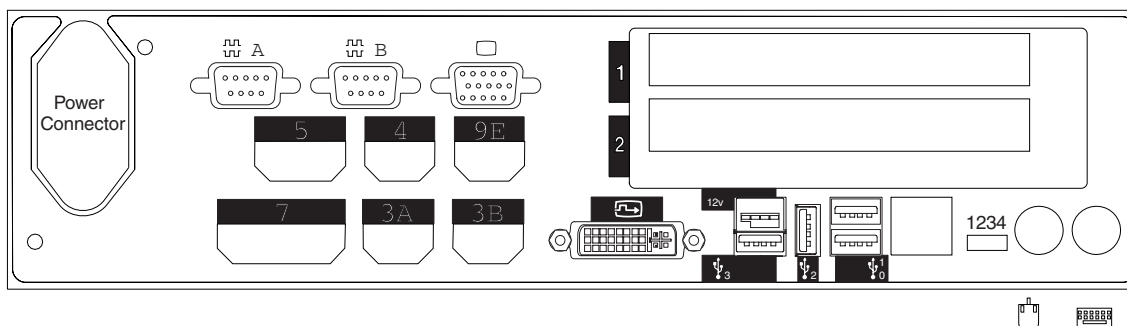

Figure 134. Rear of 4694-307 Controller/Terminal
8. Mark an X on Figure 134 to indicate the sockets in which POS devices are connected.